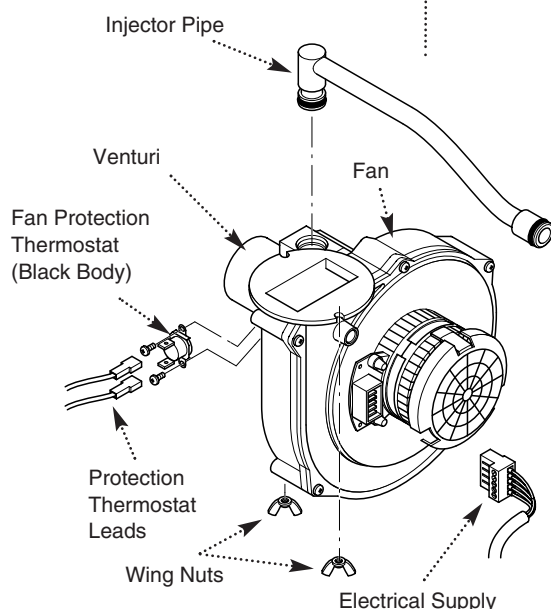

Fig. 77
13.21 Fan and Fan Protection Thermostat (Fig. 77)